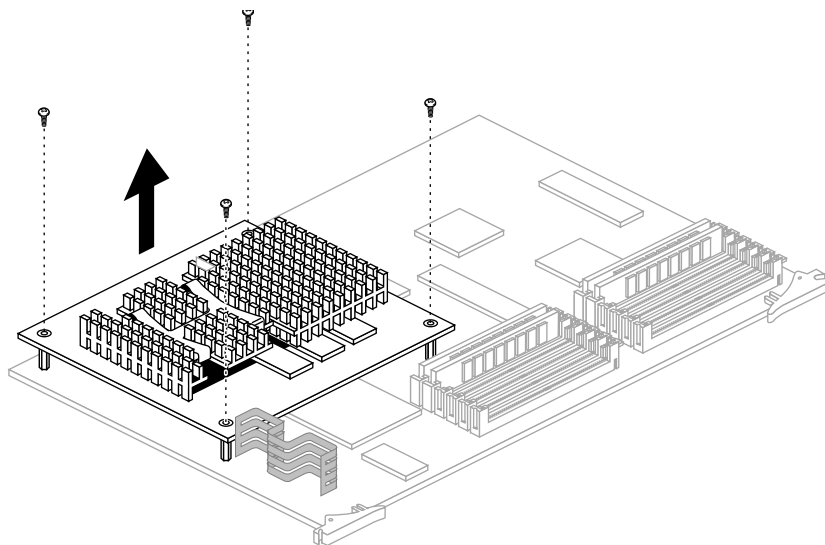

Figure 6-24 Removing the CPU Module
Note: The CPU module on your workstation may look different than the one shown in Figure 6-24.
- Remove the four screws that attach the CPU module to the board, as shown in Figure 6-24.